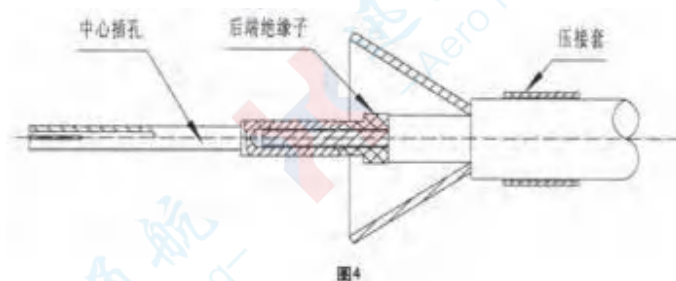

图4
④ Assemble the center socket onto the cable's center conductor as shown in Figure 4. The cable's center conductor should be visible through the inspection hole at the tail of the center socket. Perform crimping using crimping tool M22520/2-01 (set to Gear 5) and locator M22520/2-35.